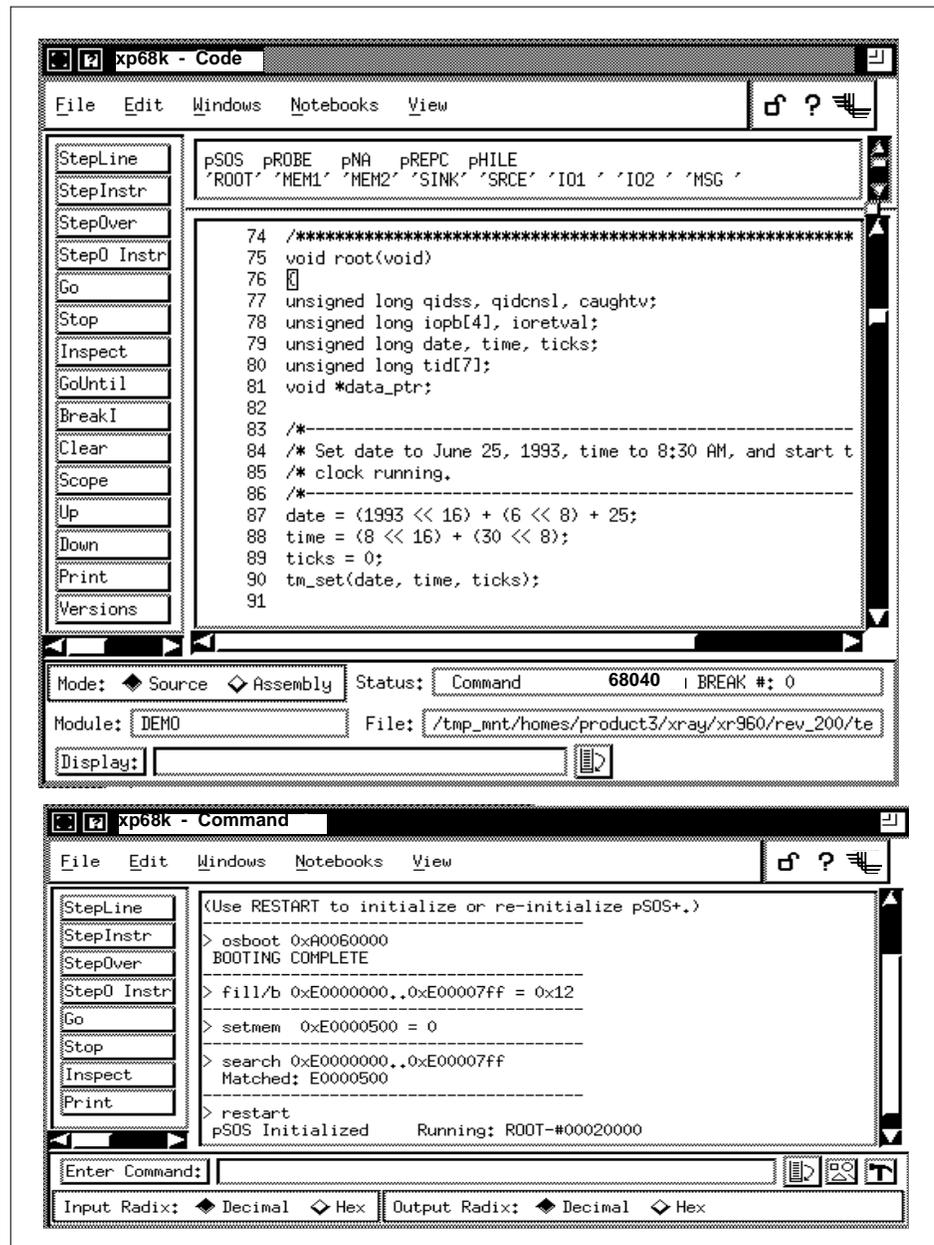

Figure 4-13 Command Window and Code Window
Downloading is complete when the Command window displays the following message (see Figure 4-13 on page 4-23 for a sample Command window):
The Command window, shown in the lower portion of Figure 4-13 on page 4-23, displays the following message:
2. Click the **Clear** button as shown in Figure 4-13 on page 4-23.